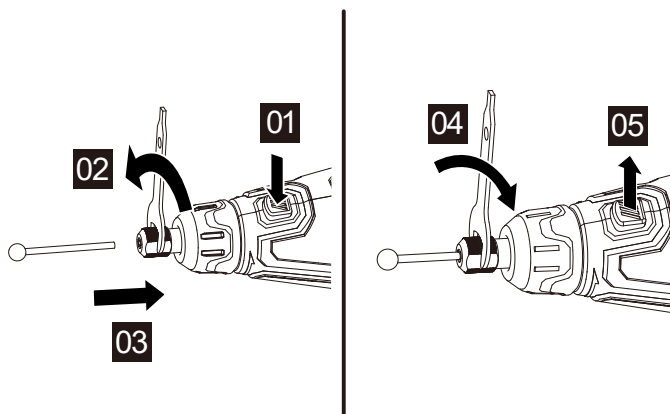

Figure 3
3. FITTING A BIT, MANDREL OR BRUSH (SEE FIG. 3)